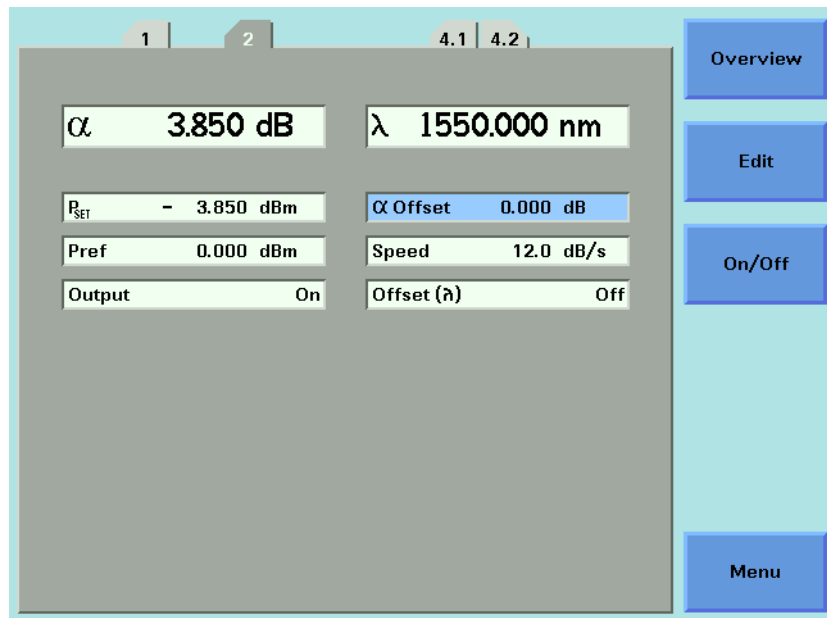

Figure 136 81570A/71A/73A – Attenuation factor applied with no offset
**Figure 136** on page -222 shows an attenuation factor  $\alpha$  of 3.850 dB applied with no  $\alpha_{\text{Offset}}$ .